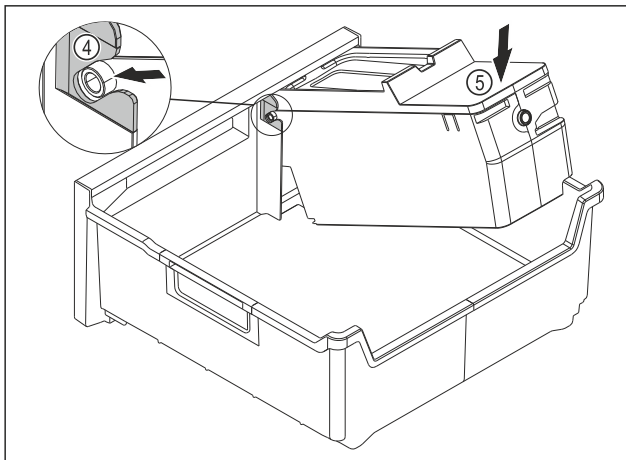

Fig. 128
- ▶ Installing the EasyTwist-Ice body: Insert the axes of the EasyTwist-Ice body into the guides Fig. 128 (4).
- ▶ Press down the EasyTwist-Ice body Fig. 128 (5) at the rear.